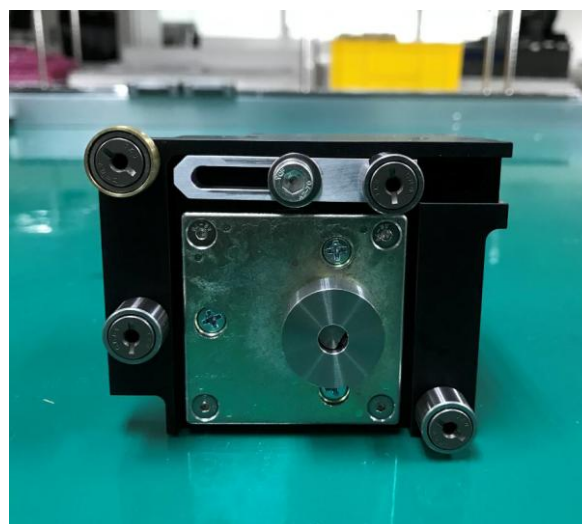

Figure 13 Fix Rail Motor Pulley (Full Assembly)
4. Assemble Fix Rail Motor Pulley (Figure 13) into Fix Rail as shown from Figure 13 to 15